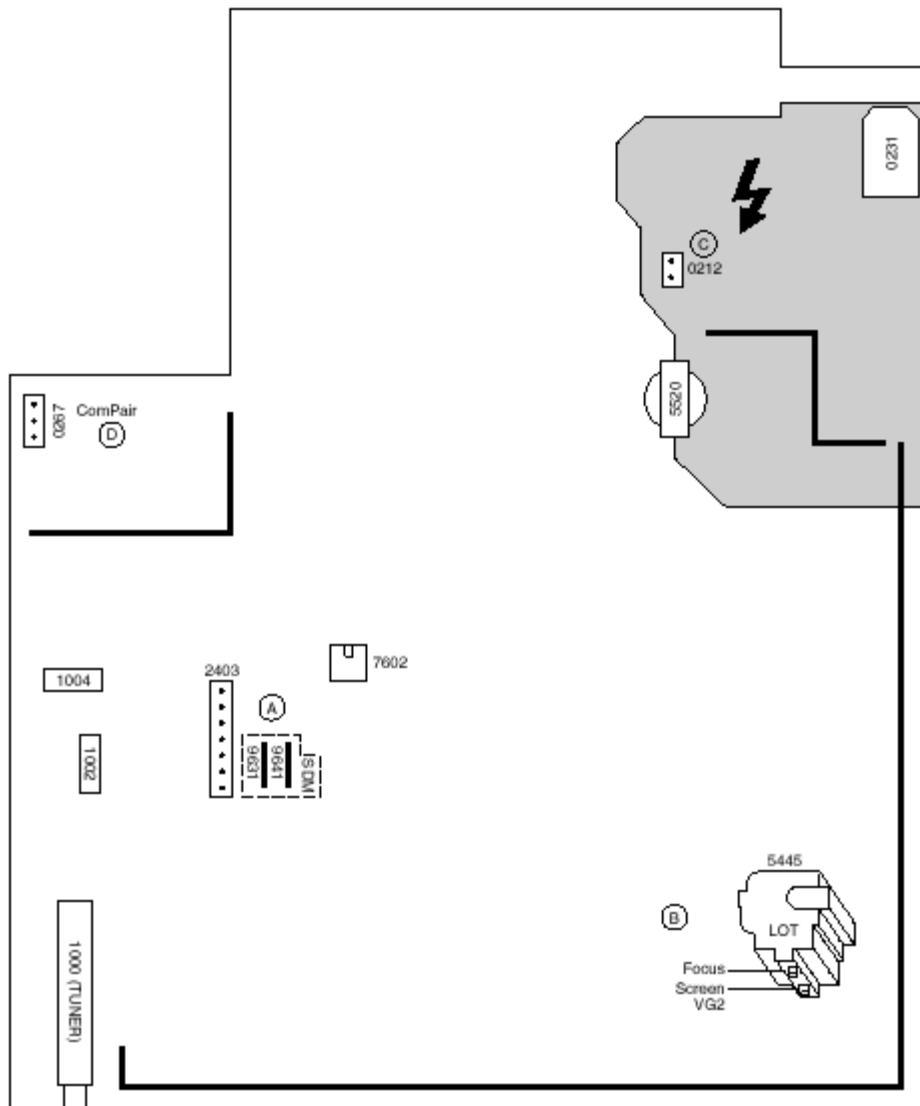

Fig. 1
10. Select the cathode with the highest V_{DC} value for the alignment. Adjust the V_{cutoff} of this gun with the SCREEN potentiometer (see Fig. 1) on the LOT to the correct value (see table below).
3. Adjust the FOCUS potentiometer (see Fig. 1) until the vertical lines at 2/3 from east and west, at the height of the centerline, are of minimum width without visible haze.